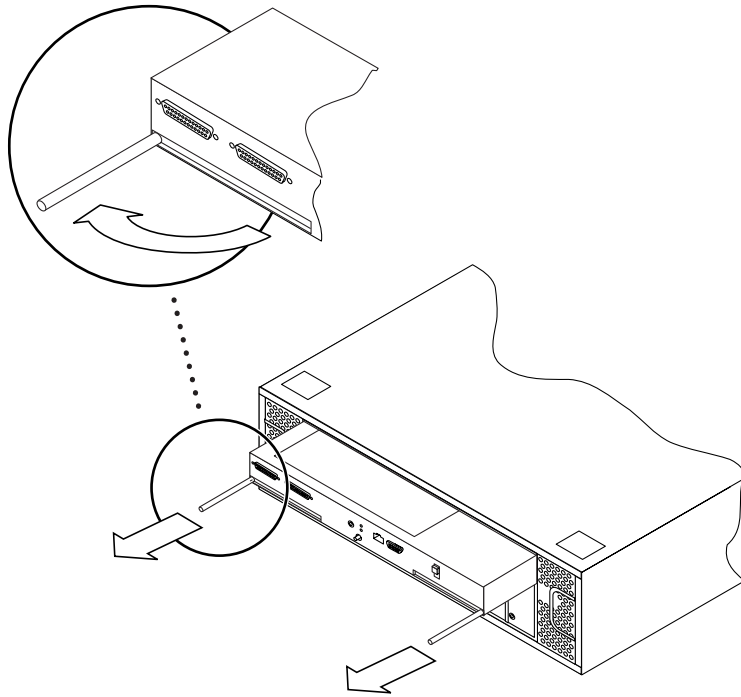

FIGURE 4-6 Removing the Controller Board With the Levers
5. **Slide the controller board canister out and set it on an antistatic mat (FIGURE 4-6).**